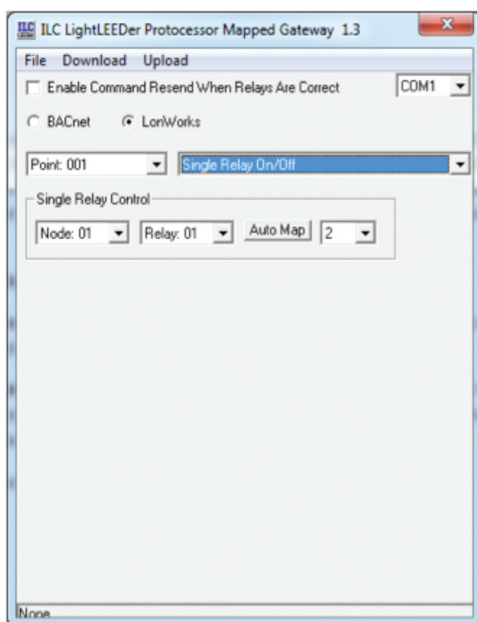

Figure 2.1 Programming a point to control a relay
- **Setting the Protocol:** From the opening screen click on either BACnet or LonWorks to match the hardware installed in the lighting system as shown in figure 2.1
From the opening screen of the software, select Point 001 or the next available point from the pull down menu. Select "Single Relay On/Off" or "Single Relay On/Timer Off" option from the pull-down menu as shown in figure 2.1 and 2.2. Next, select the Node and Relay where the desired relay resides. This screen also offers an Auto Map feature which can streamline programming. From the pull down menu to the right of the Auto Map button, select the number of relays to map in succession and then press the Auto Map button.